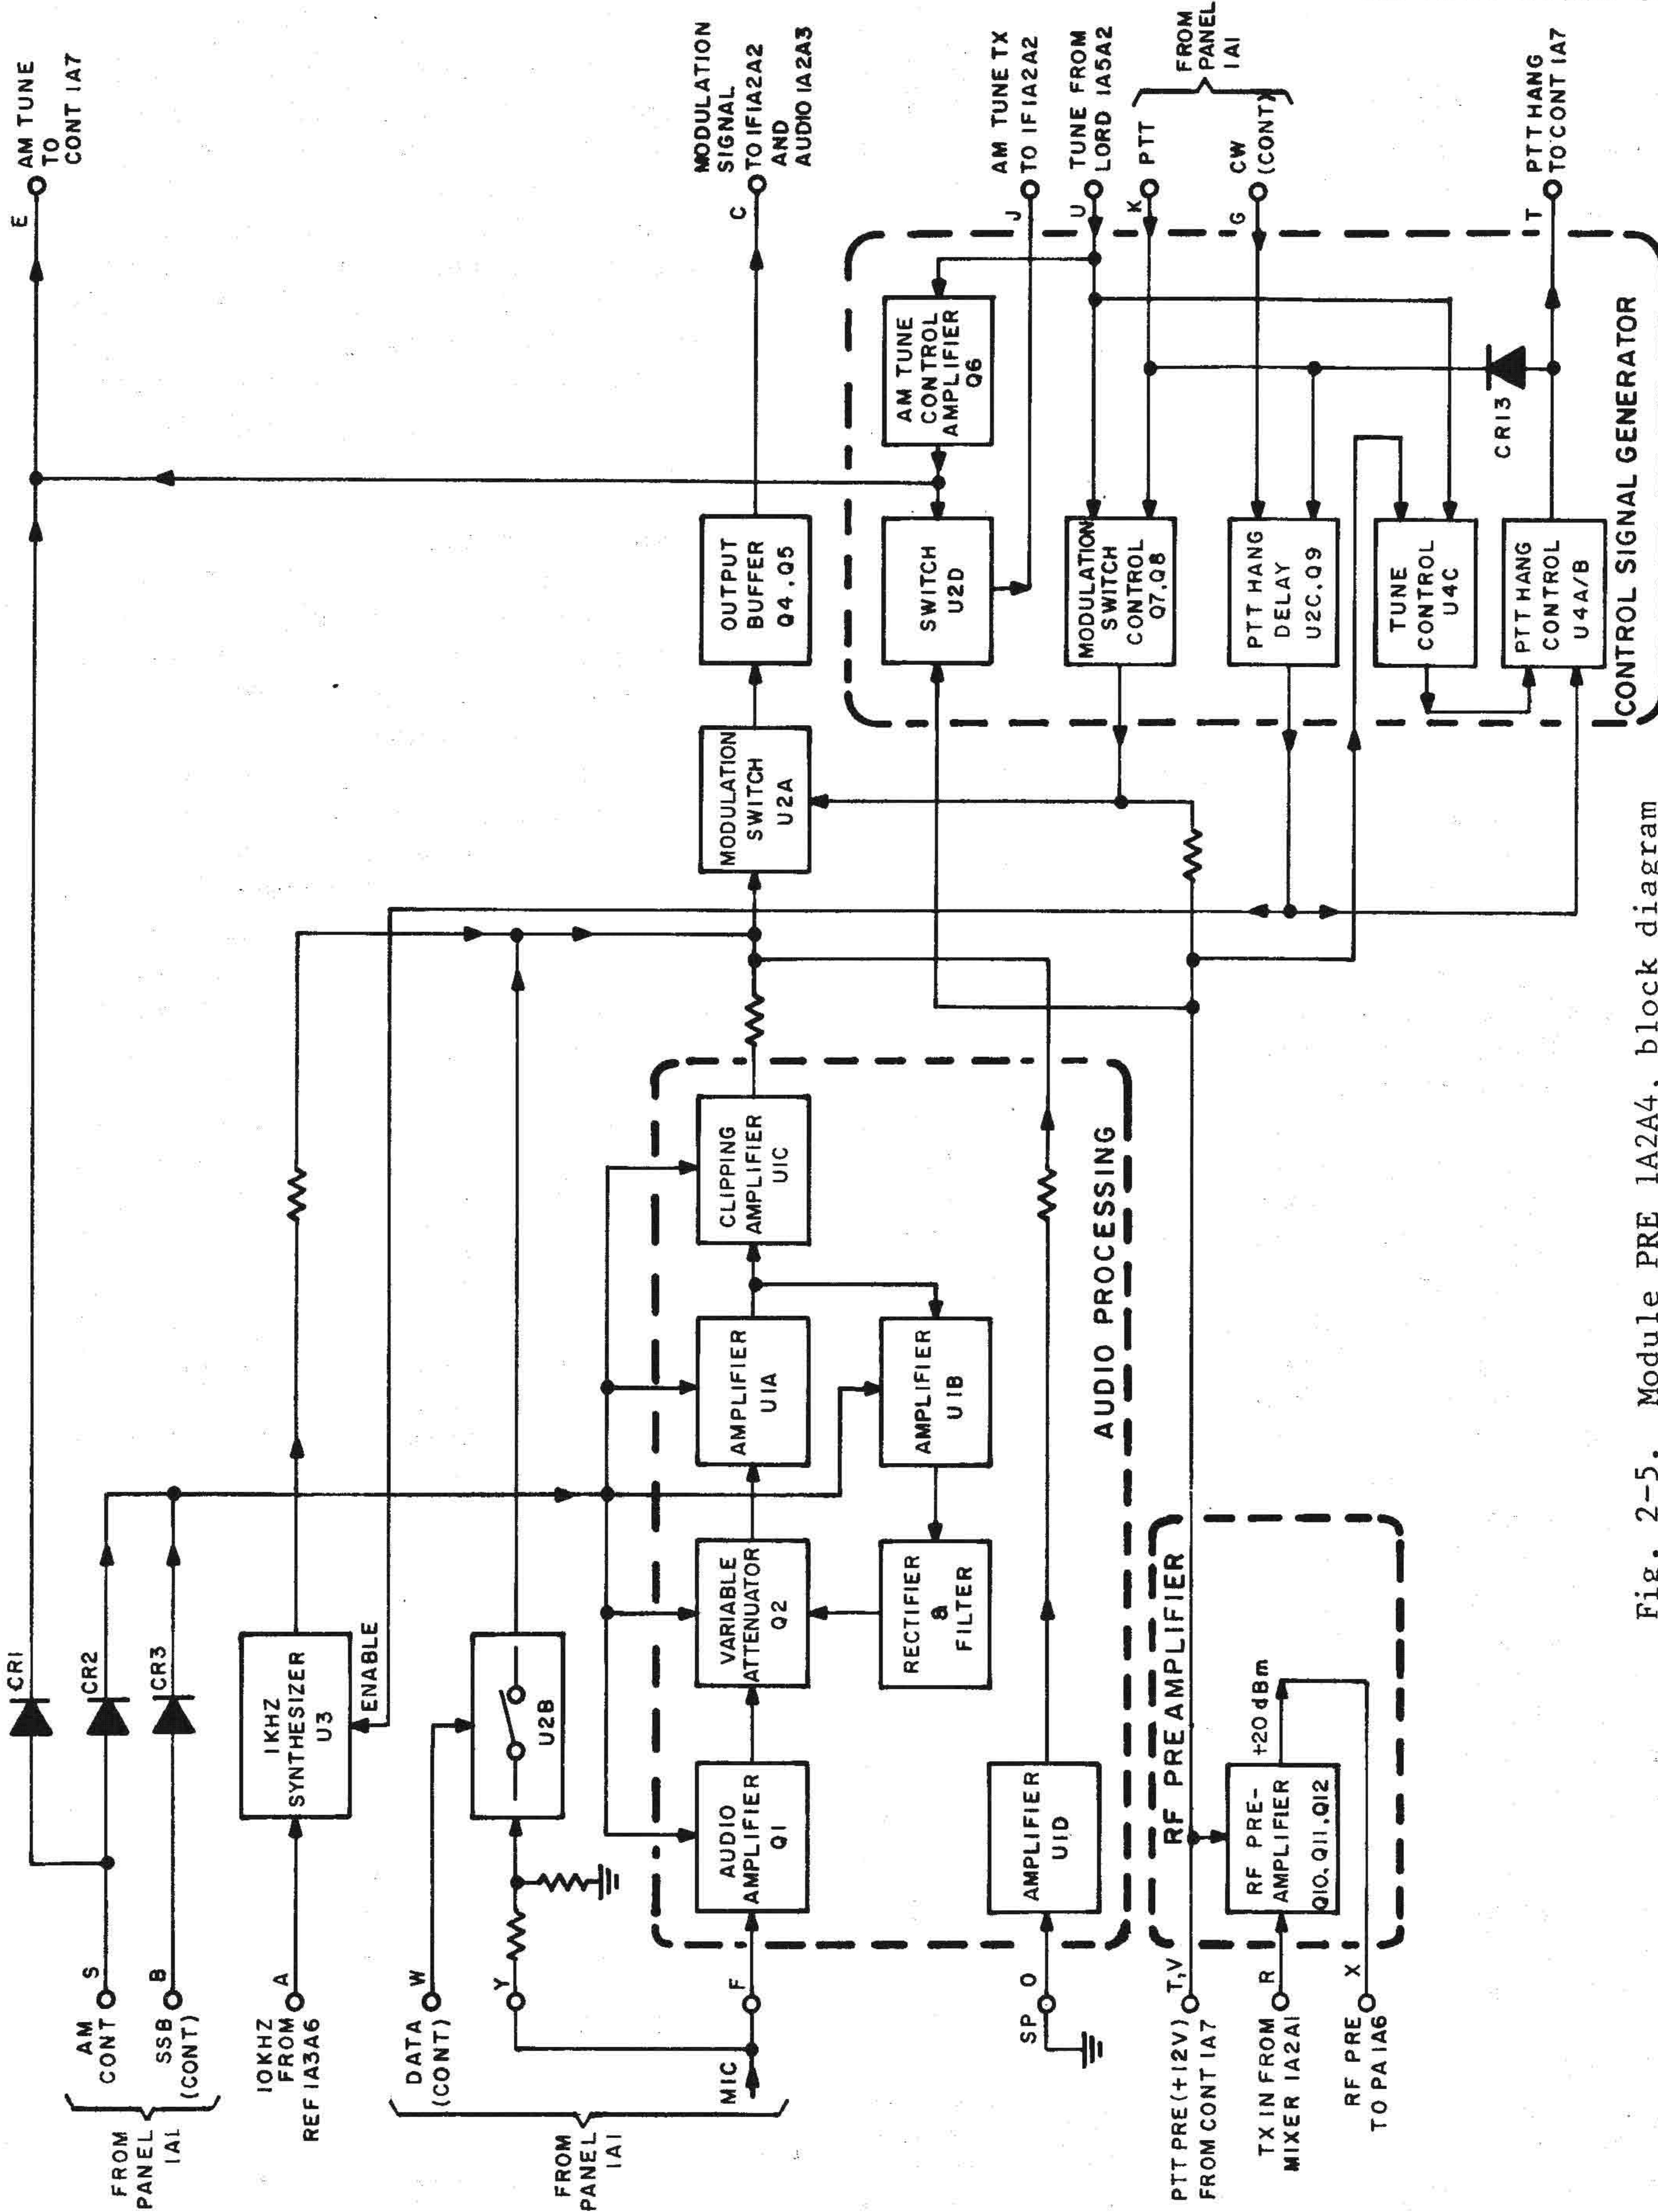

Fig. 2-5. Module PRE 1A2A4, block diagram
2-6. Module PRE 1A2A4 (fig. 2-5 through 2-10)
a. Functional Analysis (fig. 2-5). Module PRE 1A2A4 is used in the transmit path of the RT-936/PRC-174, to process the input audio signals in order to obtain the modulation signal, generate internal PTT and tuning control signals, and amplify the low level RF signal received from the MIXER 1A2A1 module to a level sufficient to drive the power amplifier in module PA 1A6. The most part of the module circuits are powered only in the tune and transmit mode (except for PTT signals generated by the control circuits).
(1) Audio signal processing: The module processes three types of signals: low-level microphone signal, data signal and 1-kHz CW modulation